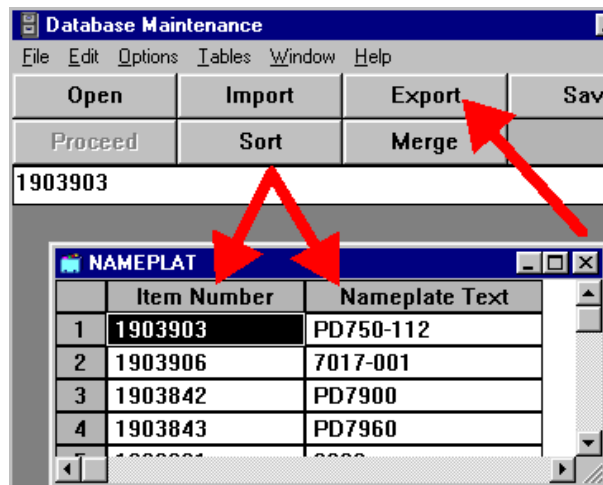

Figure 5-4
5.2.7. Note the field names. You'll need these later. (Figure 5-4)
5.2.8. Click [**Export**]. (Figure 5-4)